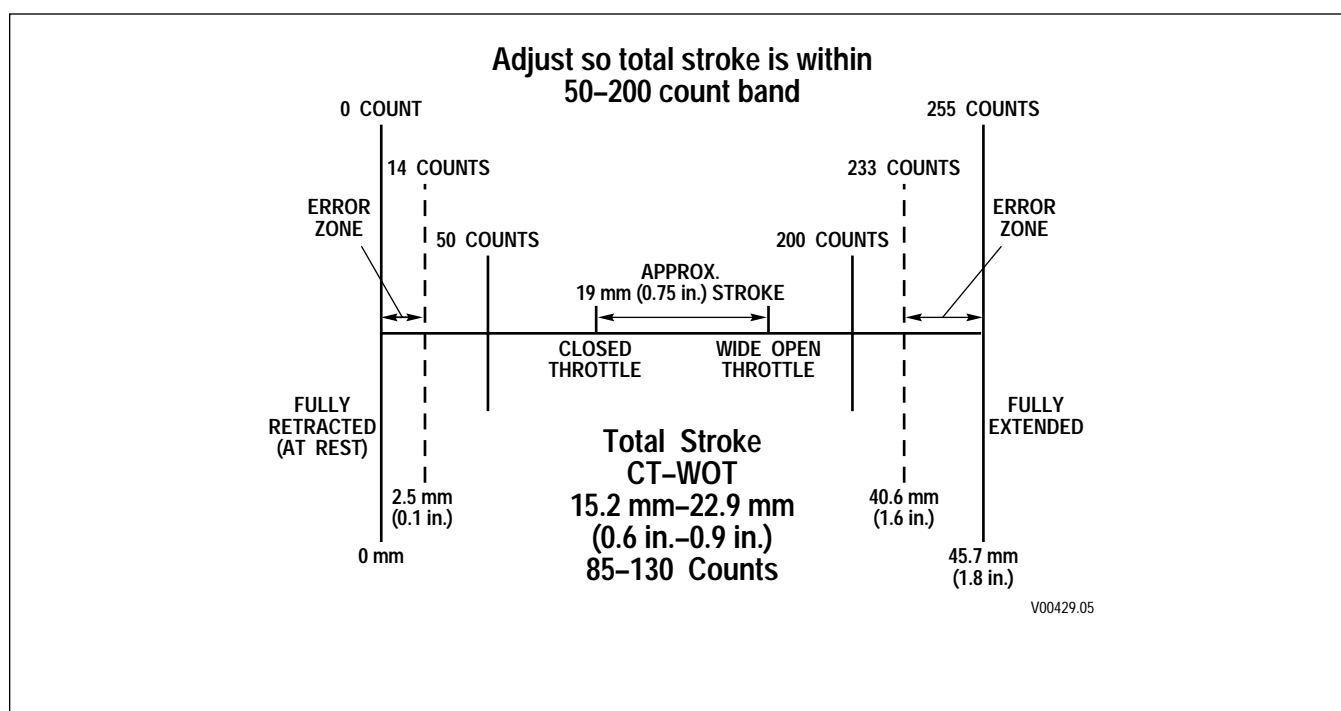

Figure F-2. Throttle Position Determination Diagram
2. Each position gives a different voltage. The ECU then converts the voltage to counts. Each count corresponds to approximately 0.179 mm (0.007 inch) of throttle sensor movement. Figure F-2 diagrams the counts and throttle movement relationship.
NOTE: After replacing or adjusting the throttle position sensor linkage, the technician should use the diagnostic tool to clear the throttle calibration. Go to the DDR selection menu and locate ACTION REQUESTS. Select RESET THROTTLE CALIBRATION and ENTER to set the 0 percent throttle counts. After the idle counts are established, the throttle should be moved to the Full position to establish the full or Wide Open Throttle (WOT) position (100 percent). The full throttle counts will be the same as the idle counts until the throttle is moved. The full throttle counts are set when maximum travel is reached so stopping before actual full throttle will set the 100 percent point artificially low. Refer to Figure F-2 for proper counts and percentage. Refer to Figure F-3 for illustration of throttle position adjustment.
When properly installed by the equipment manufacturer, the TPS should not require adjustment. Confirm that the throttle sensor is installed to manufacturer specifications before adjusting the throttle position sensor. The idle count should be 50 or higher and full throttle count 200 or lower. The TPS is self-calibrating meaning there is no optimum closed throttle or wide open throttle count value. As long as the counts are within the 50 to 200 range, the TPS is set properly. Total stroke of 85–130 counts must be maintained. Watch the movement of the throttle sensor as the controls move it through its full stroke. Be sure there is no misalignment or obstruction to smooth movement through the full stroke. Make certain the idle and full throttle positions are not in the error zones (refer to Figure F-2). The error zones occur when the idle position is less than 14 counts, or when the full throttle position is more than 233 counts. When idle or wide open throttle positions are in the error zones, codes 21 12 and 21 23 occur, respectively. These codes cause the transmission to shift as if the throttle is fully depressed (100 percent throttle) affecting shift quality and causing decreased fuel efficiency. Code 21 XX may be caused by a short or open circuit in the chassis harness or by incorrect voltages. If this occurs, refer to code 21 XX chart.